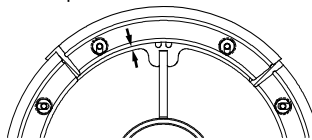

Figure 2
9. Inspect the cleaning disc blades while inside the unit. If the spacing between the edge of the blade and the inside edge of the plate is approximately 1/8" then the blades need to be replaced. See Figure 2.